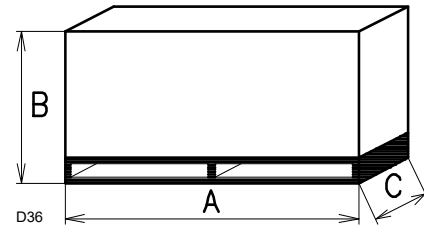

Fig. 1
- The burners is supplied skid mounted. Outer dimensions of packaging are indicated in Fig. 1.